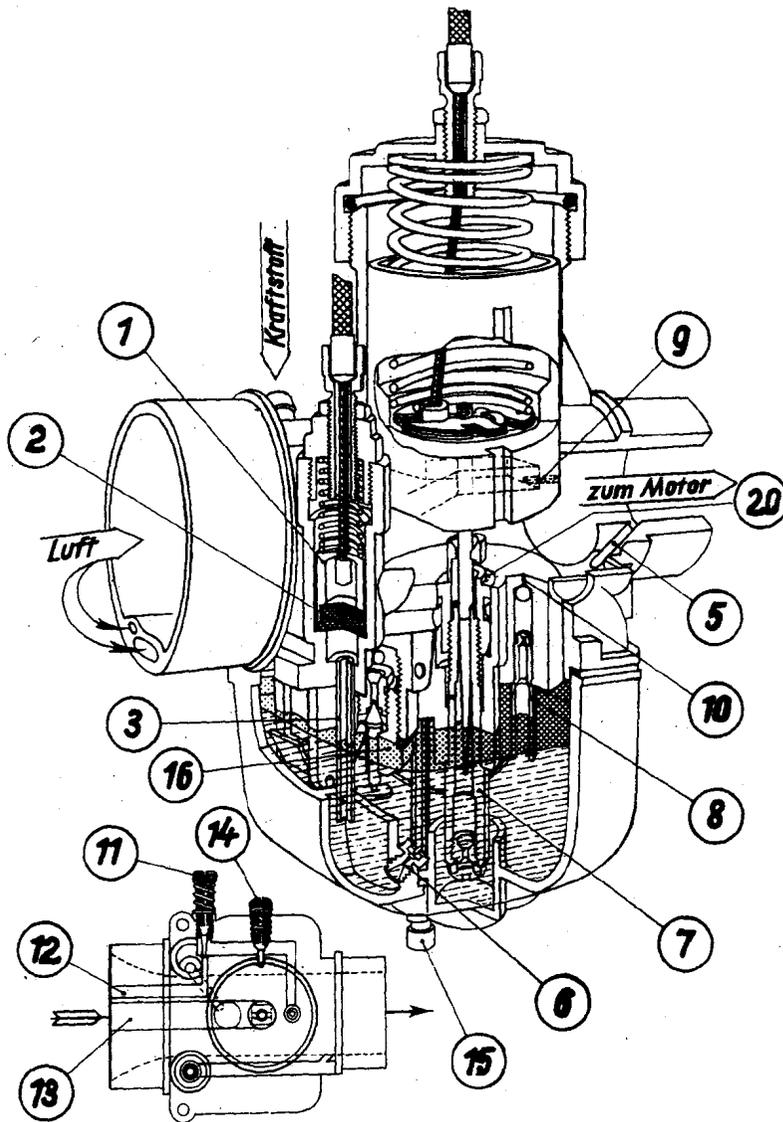
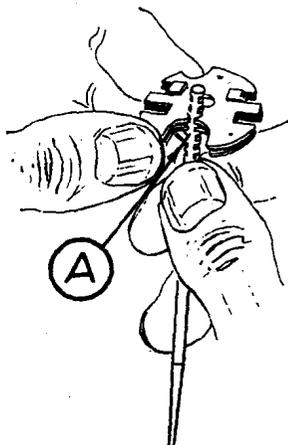
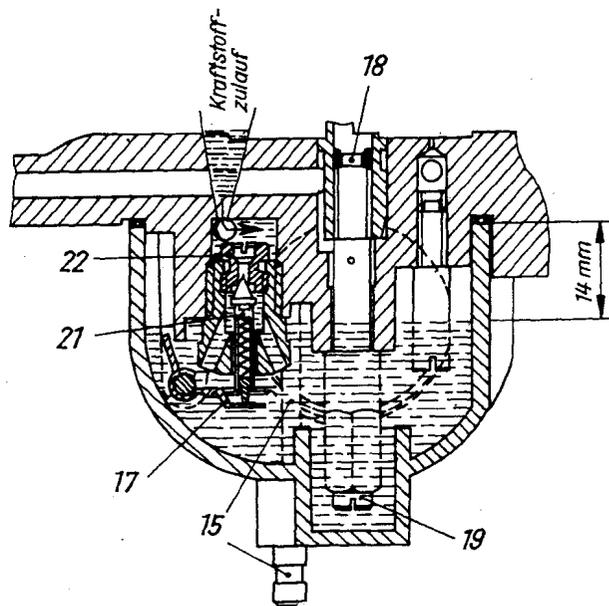

Fig. 192. Carburettor BVP 30 N 2-5 (starting carburettor), sectional view
Fig. 193. Partial-load needle with holder
Fig. 196. Carburettor lower part (sectional view) fuel level
The fuel required for starting is pre-mixed in the starting compartment. The air required for this purpose is sucked up from the compartment for the central float through a recess in the upper edge of the partition wall. The central float is aerated through an overflow tube (15), Fig. 196, which is arranged in the centre of the float chamber.
The fuel flows through the float valve (16 in Fig. 192) into the float chamber. When the fuel level has reached a certain height (Fuel level), the float needle valve is closed by a sheet-metal nose (17), Fig. 196, which is arranged at the holder of the float.
By the atomiser insert (18 in Fig. 196), the fuel is atomised and mixed with the air flowing through. This ignitable fuel-air mixture is then conducted to the engine.
The formation of an ignitable mixture in idling is due to the idling jet and the specified setting of the slow-running air screw (see Fig. 192, Nos. 8 and 11).
The needle holder not only fixes the needle for partial load but also guides this needle (upper plate of the needle holder). For setting the needle, the lower plate (A) of the holder is decisive (Fig. 193). The needle holder lies flat on the bottom of the throttle valve. The latter in turn, displaceable axially in its guide, is pressed into its initial position (idling position) by a spring which is supported by the closing cap. The spring force acts against the cable control force (see Fig. 192).
When the float needle valve is leaky, this is indicated by the dripping vent (15), Fig. 196. In this case, demount the valve and once more carefully clean it. If it then is still leaky, it must be replaced by a new one.
The stop screw (14) for the throttle valve is adjusted in such a way that the engine runs perfectly smooth. Then the slow running air screw (11) is fully turned down and slackened back through one revolution. Subsequently, the slow running air screw is screwed down and back for trial to find the maximum rotational speed of the engine. When it has been found, the stop screw for the throttle valve must be set in such a way that the engine again reaches the idling speed (see Fig. 192).